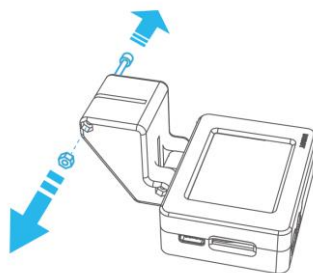

Figure 3.6 Loosen the screws
Step 1 Loosen the screws of the AI camera using a 1.5mm socket head wrench, as shown in Figure 3.6.